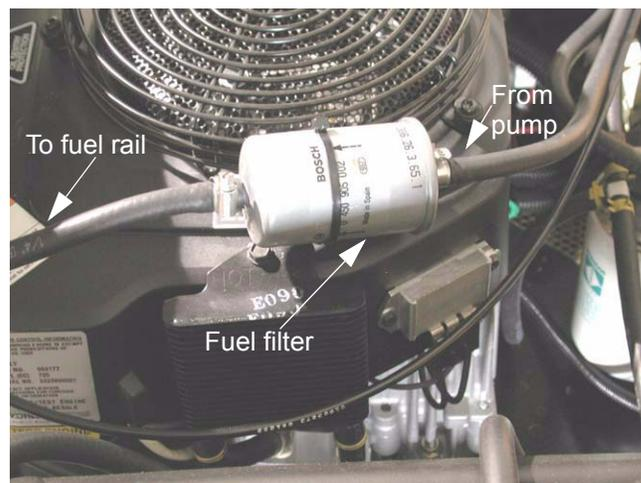

Figure 10.9
10.9. The fuel filter is easily accessible. See Figure 10.9.